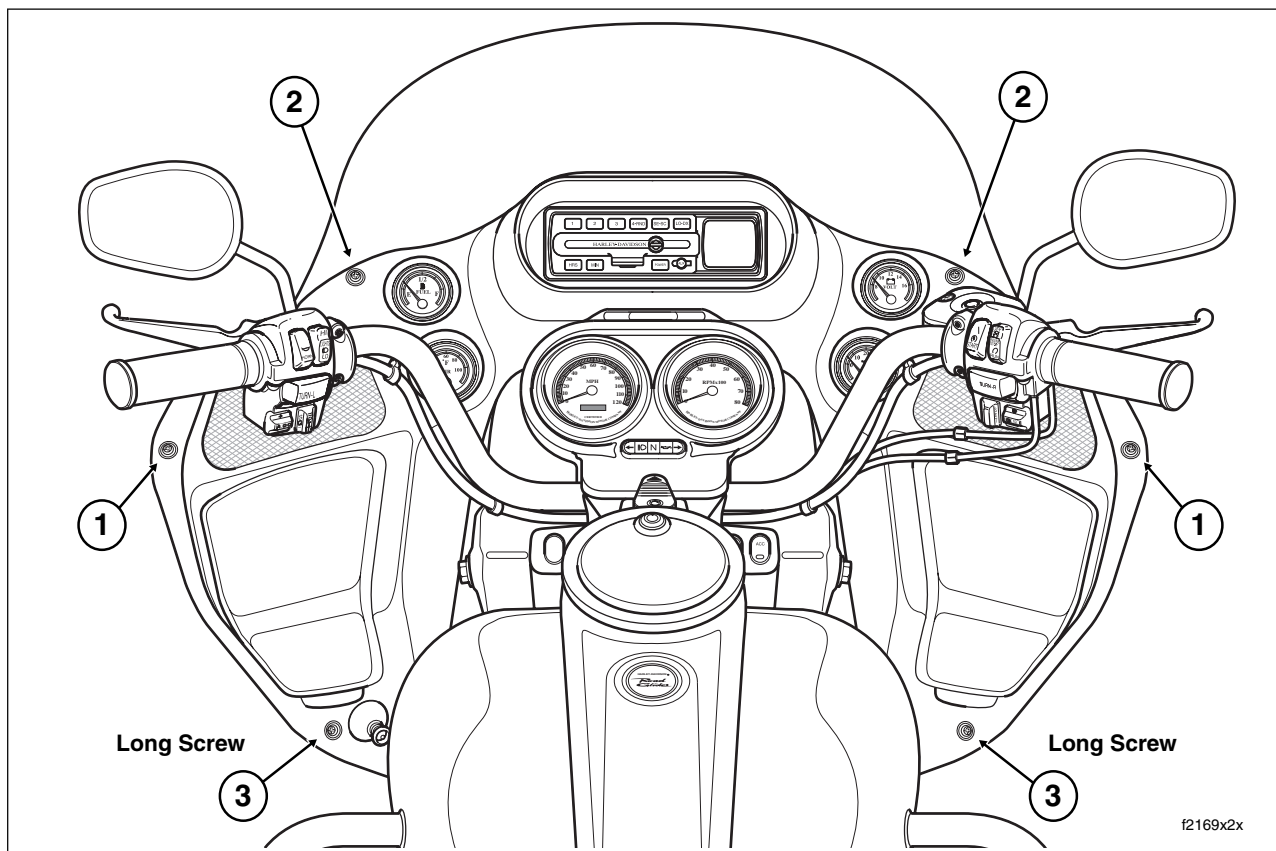

Figure 2-161. Remove/Install Six Outer Fairing Screws
2. Standing on left side of motorcycle, use a T25 TORX drive head to remove screw at edge of fairing outboard of the left speaker. See Figure 2-161. Remove screw outboard of the right speaker.
10. Alternately tighten four short fairing screws to 6-12 **in-lbs** (0.7-1.4 Nm). Alternately tighten two long fairing screws to 10-15 **in-lbs** (1.1-1.7 Nm). Use the torque pattern shown in Figure 2-161.